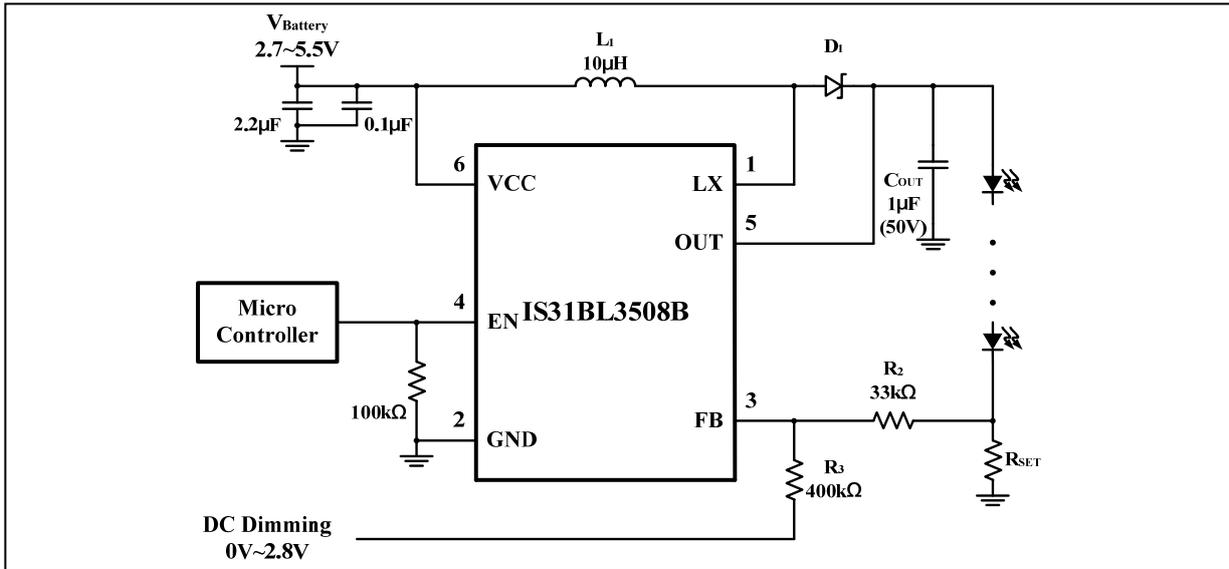

Figure 5 Constant Output Current With DC Dimming Input
The schematic of Figure 5 shows an example of using a DC input voltage at the FB pin to implement LED dimming. When the DC input voltage increases, the current through R₂ and R₃ increases producing an offset voltage across R₂, thereby causing the LED current to be reduced. The LED current may be computed using the following Equation (3). V_{FB} is 0.2V (Typ.).